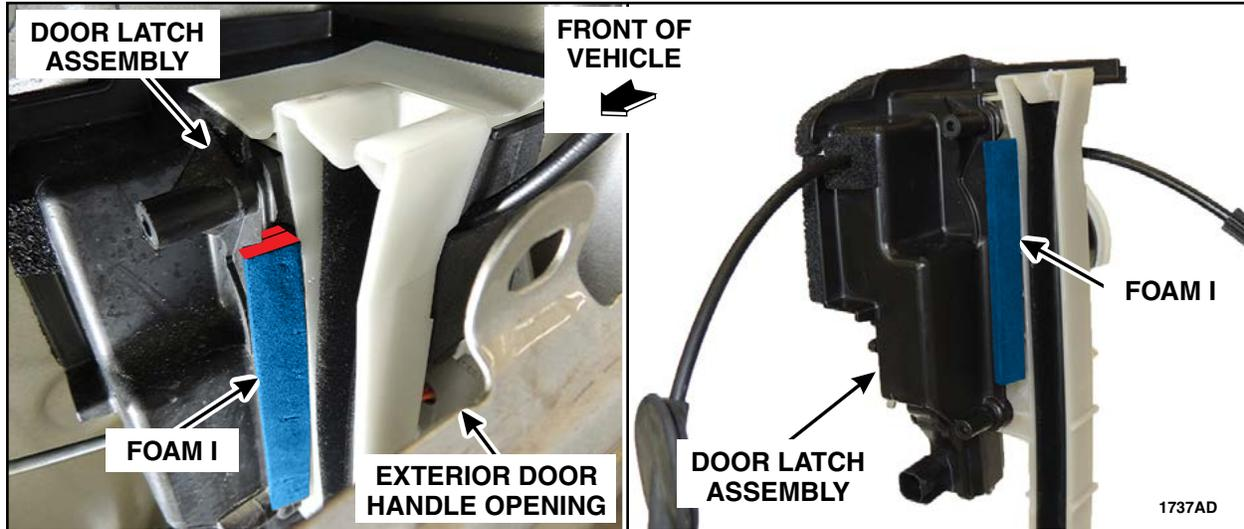

FIGURE 83
5. Install Foam I to cover the gap between the rear door latch assembly water shield and the door glass run. See Figure 83.